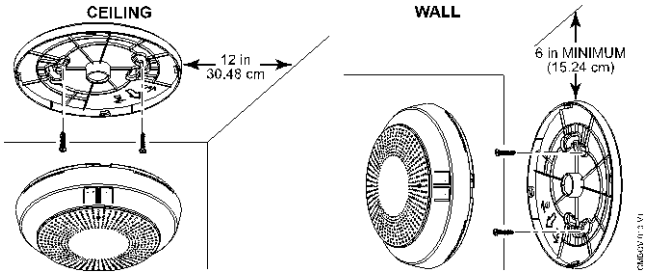

Figure 3. Mounting the 5800CMBOV
In a wall location, the detector should be at least as high as a light switch, and at least 6 inches (15.24cm) from the ceiling. In a ceiling location, the detector should be at least 12 inches (30.48cm) from any wall. (Refer to Figure 3)
1. Refer to Figure 3 and install the mounting base on the ceiling or on the wall (if local ordinances permit). Use the two screws and anchors provided. Rotate the base so the screws are at the elbow of the screw slots and secure.